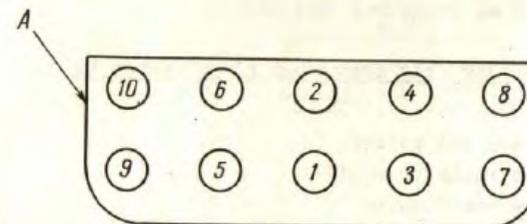

Fig. 13. Cylinder Head Nut Tightening Sequence
Upon completion of the running-in change the oil in the engine sump, filters and transmission units and tighten the cylinder head nuts in the sequence shown in Fig.13. The nuts should be tightened with a special wrench to 7.3-7.8 kg-m when the engine is cold. Thereafter check the valve clearance and adjust, if necessary.
1. Tighten the cylinder head nuts after the running-in and 1000 km after every removal of the cylinder head. The nuts should be tightened when the engine is cold. Proceed in the sequence shown in Fig.13. Tighten in two steps to a final torque of 7.3-7.8 kg-m.